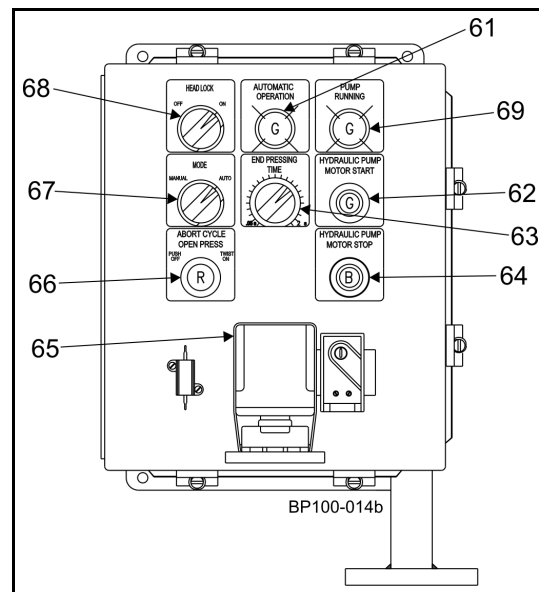

Figure 3 - Operator Push Button Panel
1. In emergency, push in red abort cycle push button (Figure 3, item 66) located on operator push button panel.